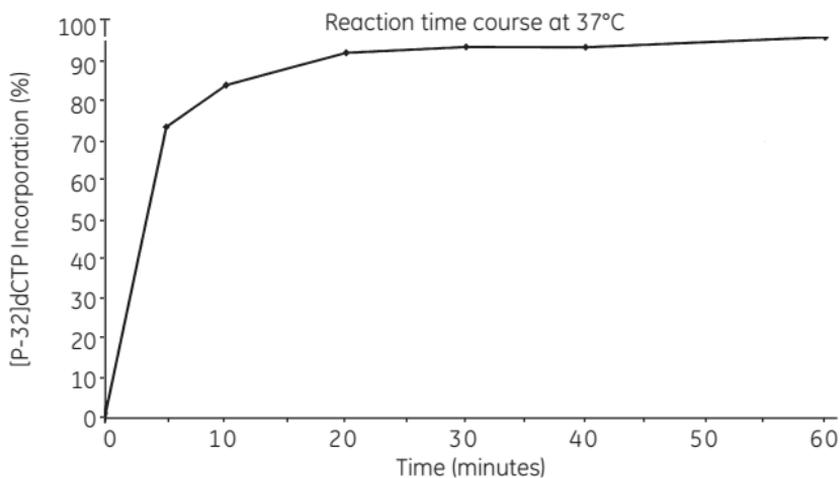

Fig 1. Time course of incorporation of μ - ^{32}P]dCTP (17 pmols) in a Rediprime reaction at 37°C using the control DNA supplied with the system.
7. If desired, the labelling reaction can be allowed to proceed at room temperature, or may also be left to proceed overnight. Probes of high specific activity can be generated in 20–60 minutes at this temperature (see figure 1).